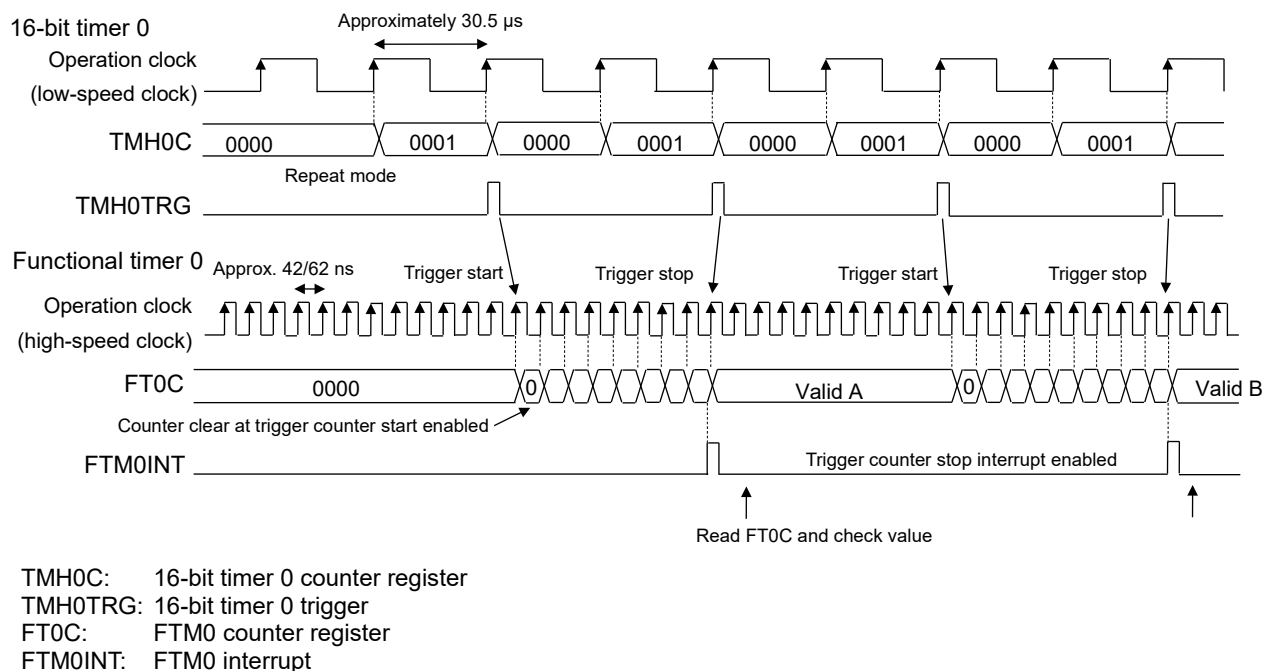
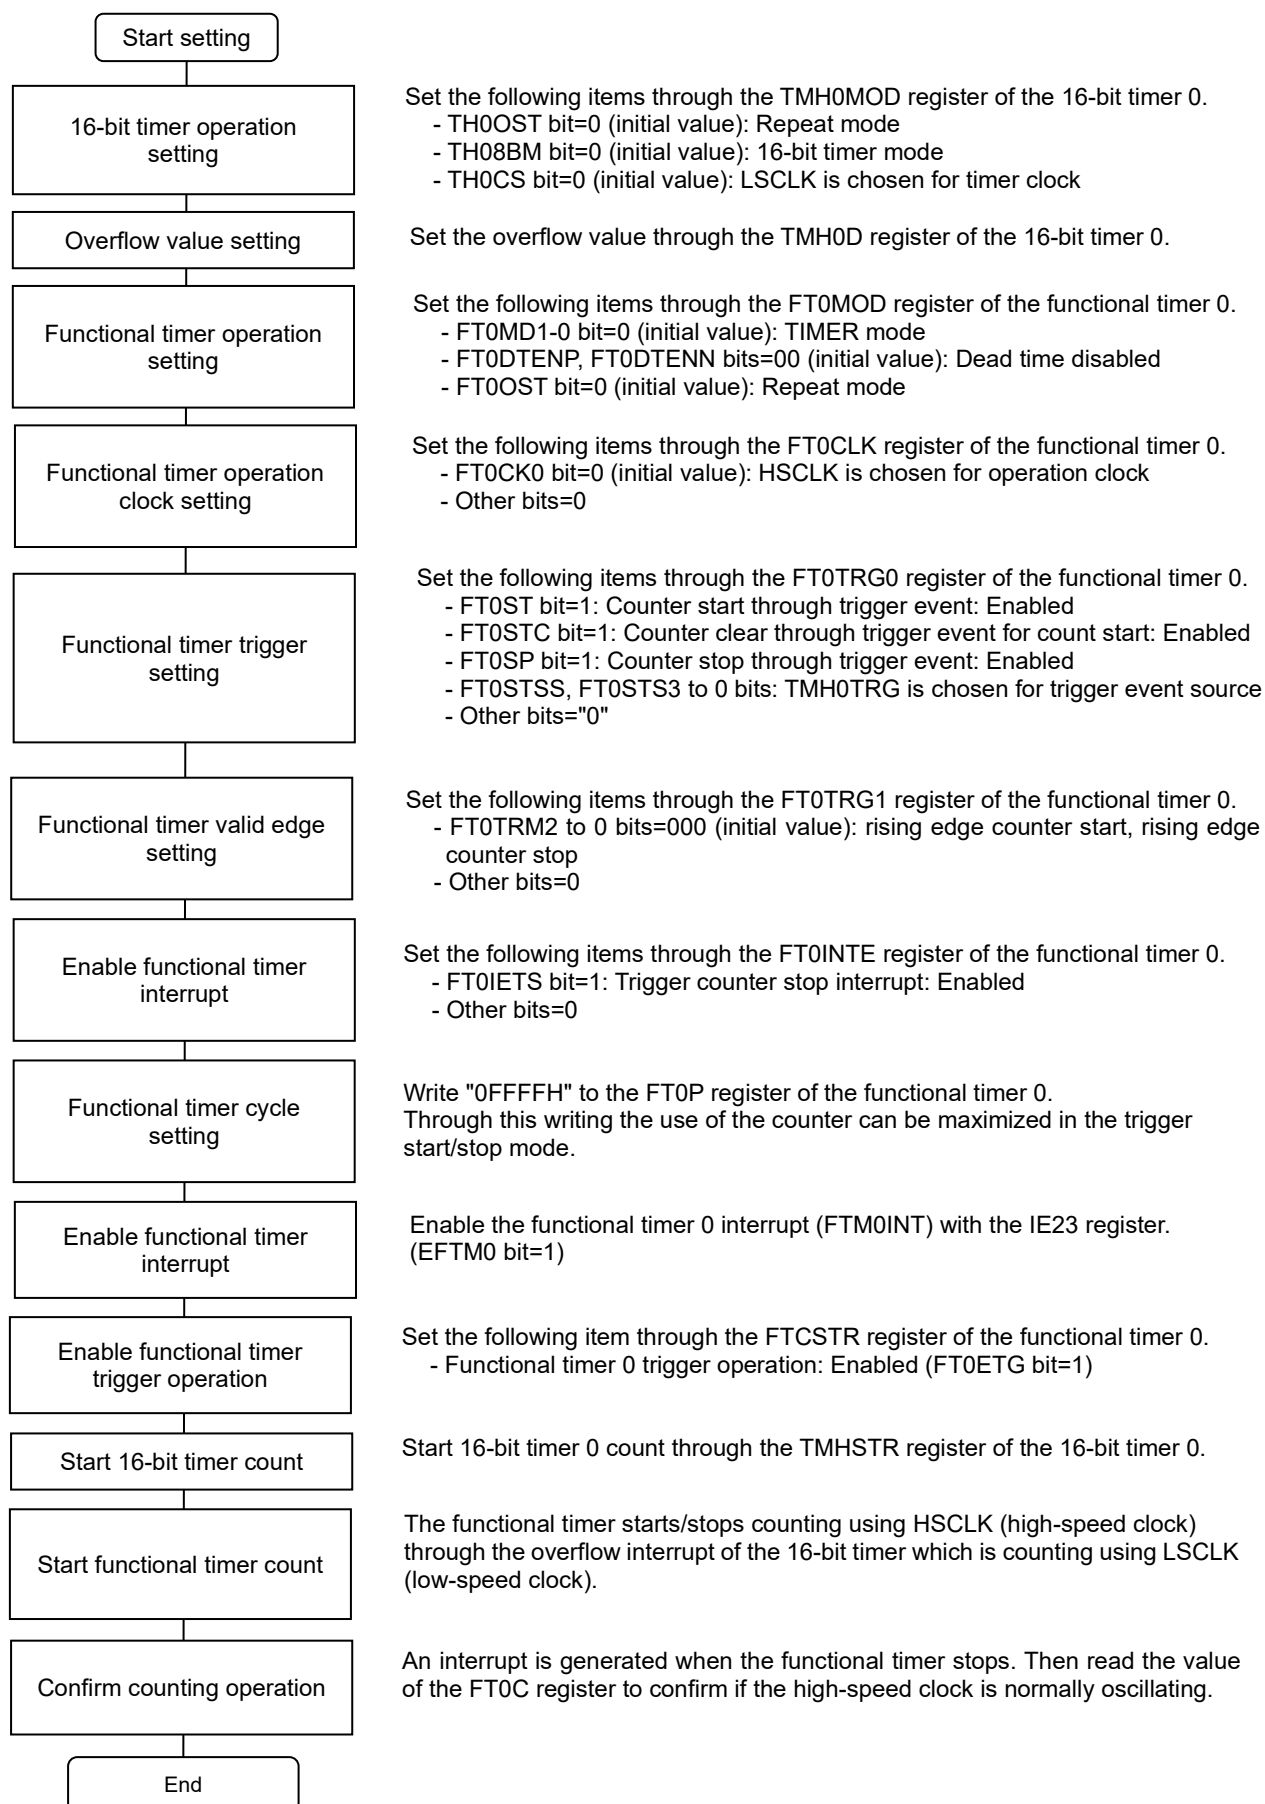

Figure 29-4 High-Speed Clock (PLL Oscillation Circuit) Oscillation Monitoring Example
Figure 29-5 Setting of High-Speed Clock (PLL Oscillation Circuit) Oscillation Monitoring Example
Figure 29-4 shows an example of the monitoring operation, using 16-bit timer 0 and Functional timer 0, for the high-speed clock (PLL oscillation circuit) oscillation.
Figure 29-5 describes the setting for the monitoring example shown in Figure 29-4.
- For "Overflow value setting" in Figure 29-5, set the value so that the overflow period of the 16-bit timer n is to be shorter than that of the functional timer n.